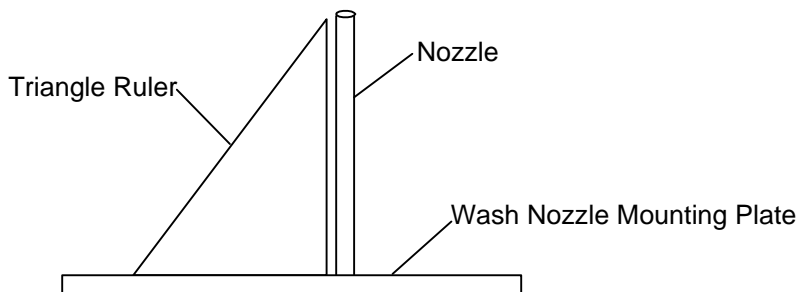

Figure 1. Nozzle Alignment.
8. Place the triangle ruler on the bottom of the Wash Nozzle Mounting Plate to confirm that each nozzle is perpendicular to the Wash Nozzle Mounting Plate. Perform this check from two or more directions perpendicular to each nozzle (Figure 1).